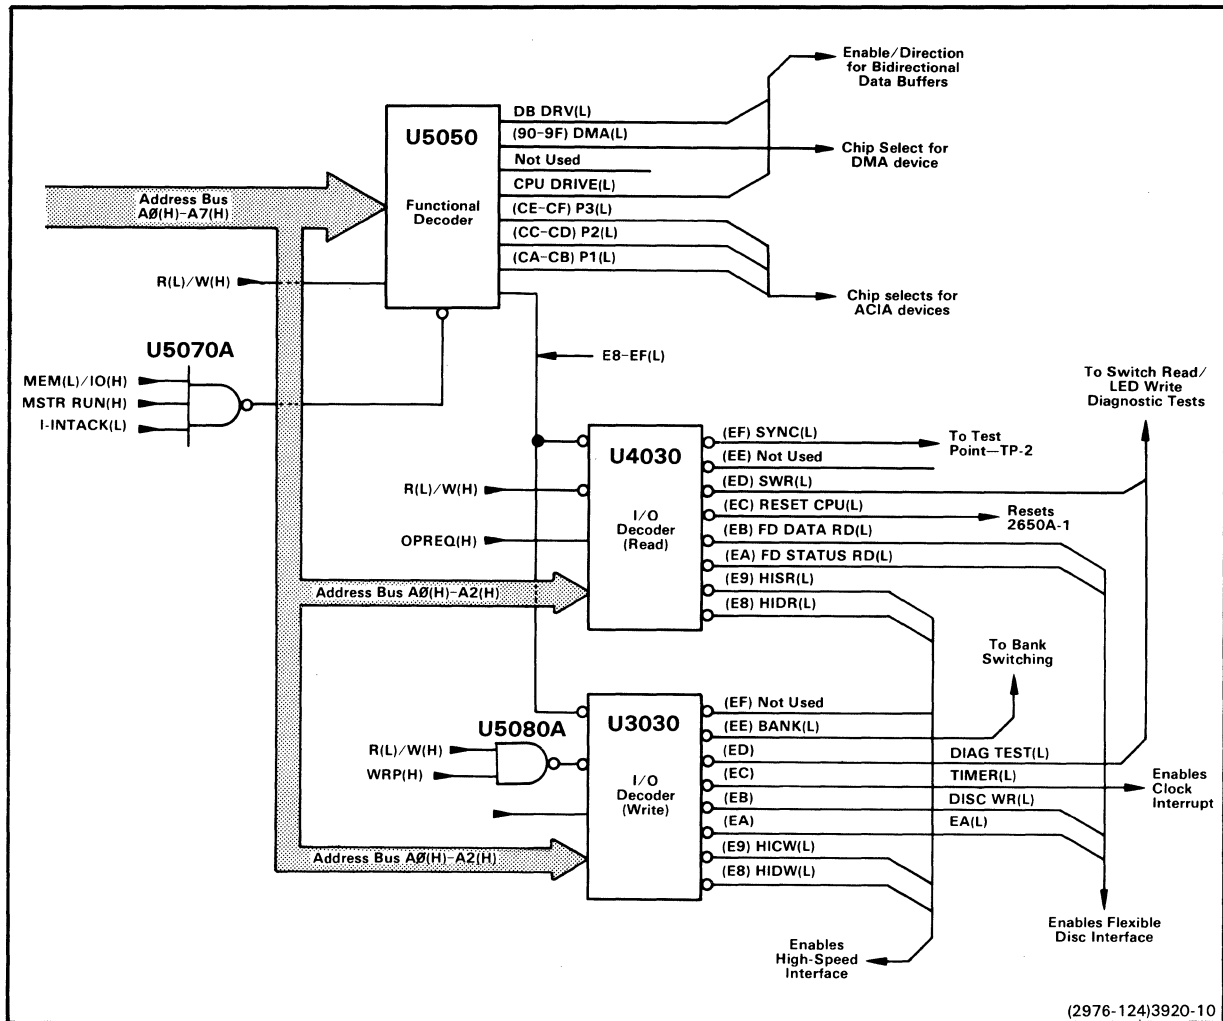

Fig. 4-8. Functional and I/O decoders block diagram.
I/O port addresses for the System Controller board are decoded in a functional decoder and two I/O decoders: one for read operations and one for write operations. Figure 4-8 is a simplified schematic diagram of these decoders.
Functional decoder U5050 utilizes a type-74S472 PROM as a decoder. This decoder is enabled when all of the following conditions are met (refer to Fig. 4-8):
from the address bus during either a read or write operation. (Refer to Fig. 4-8.)
Table 4-6 shows the states of the enabling control lines, the I/O port addresses, and the output control lines for the functional decoder. Note in Fig. 4-8, that there are two other output lines from the functional decoder, DB DRV(L) and CPU DRIVE(L). These control lines are used to set the direction of data flow through the directional and bidirectional data bus buffers. This permits the system processor to be selective during read/write operations, and to read to or write from the unique data buses and/or the system data bus.
The two I/O decoders are shown in Fig. 4-8. Decoder U4030 is activated during a read operation and decoder U3030 is activated during a write operation. As previously discussed, I/O port addresses E8--EF set the functional decoder output control line, E8--EF(L), low. This control line, E8--EF(L), is one of three enabling inputs to each of the I/O decoders.